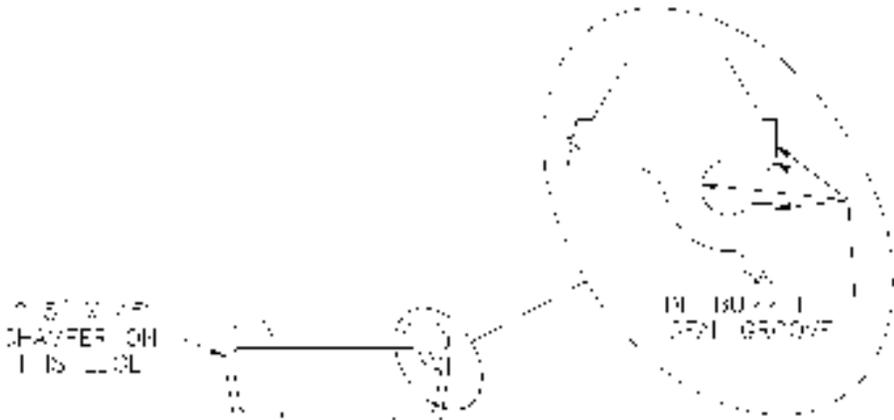

Figure 21
4. Attach drive-in wear bearing in slat/plank (Figure 21).
5. Install seals (Figures 21 to 33).
b. Inspect the ends of the floor slats. De-burr the seal groove. Chamfer the outside edge of the floor slat opposite the seal groove. De-burr and chamfer both ends of the floor slats (Figure 21).